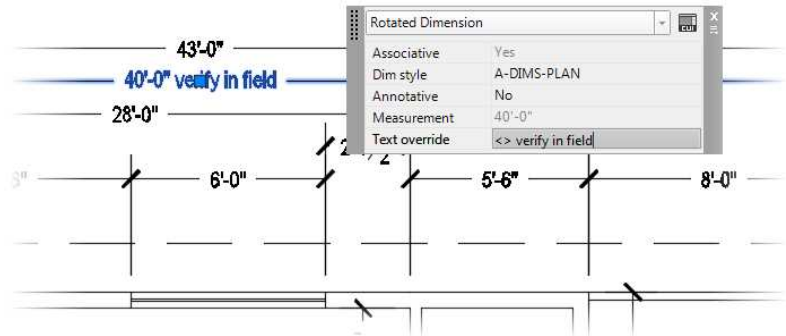

FIGURE 12.45: Adding a phrase to dimension text
4. Highlight the Text Override field, and enter <> verify in field. The phrase is appended to the dimension (see Figure 12.45). The <> (opening and closing angle brackets without a space in between) instructs AutoCAD to add the phrase to the dimension text; if you had not prefixed the override with <>, the phrase would have replaced the dimension text entirely.